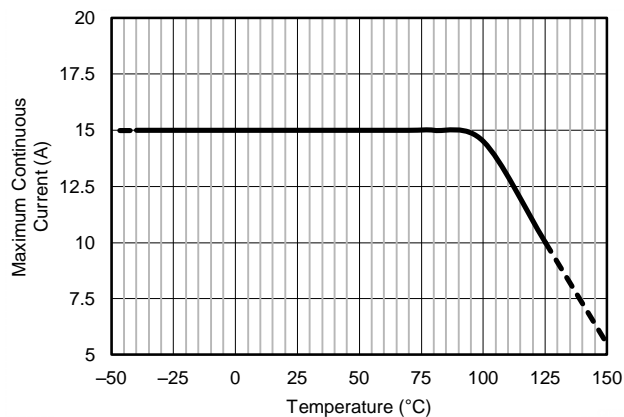

Figure 24. Maximum Current vs Temperature
(1) RTI = referred-to-input.
(2) The supply voltage range maximum is 36 V, but the reference voltage cannot be higher than 18 V.
(3) See the Integrated Shunt Resistor section for additional information regarding the integrated current-sensing resistor.
(4) The internal shunt resistor is intended to be used with the internal amplifier and is not intended to be used as a stand-alone resistor. See Integrated Shunt Resistor for more information.
(5) See Figure 24 and the Layout section for additional information on the current derating and layout recommendations to improve the current handling capability of the device at higher temperatures.
(6) System gain error includes amplifier gain error and the integrated sense resistor tolerance. System gain error does not include the stress related characteristics of the integrated sense resistor. These characteristics are described in the Shunt Resistor section of the Electrical Characteristics table.
External factors (such as ambient temperature, external air flow, and PCB layout) can contribute to how effectively the heat developed as a result of the current flowing through the total package resistance can be removed from within the device. Under the conditions of no air flow, a maximum ambient temperature of 85°C, and 1-oz. copper input power planes, the INA250 can accommodate continuous current levels up to 15 A. As shown in Figure 24, the current handling capability is derated at temperatures above the 85°C level with safe operation up to 10 A at a 125°C ambient temperature. With air flow and larger 2-oz. copper input power planes, the INA250 can safely accommodate continuous current levels up to 15 A over the entire –40°C to 125°C temperature range.